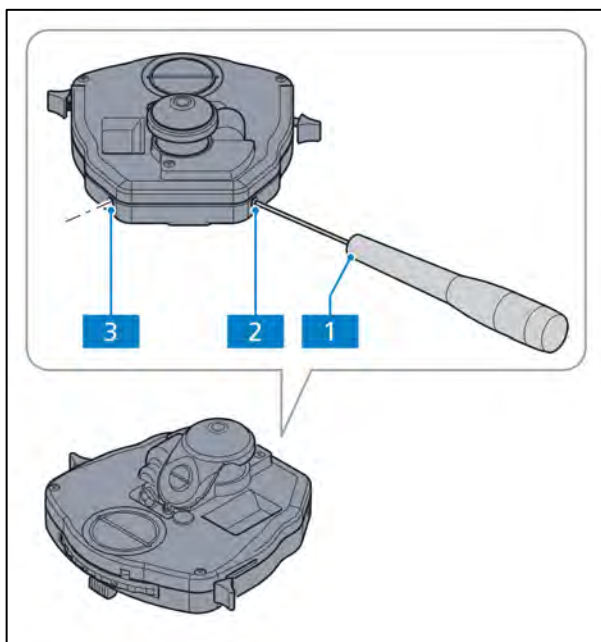
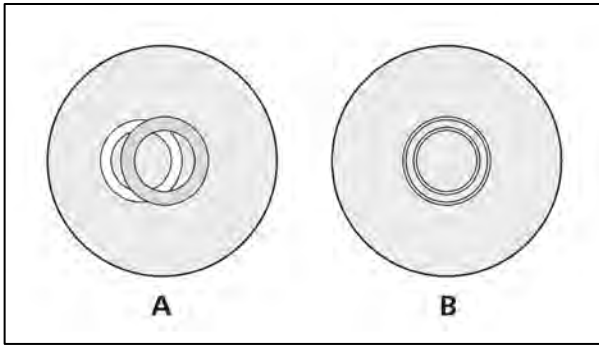

Fig. 4-5 Centering the darkfield stop on condenser, achromatic-aplanatic 0.9 H D Ph DIC
Fig. 4-6 Centering the annular phase diaphragm (light-colored, in the condenser) and the phase ring (dark-colored, in the object)
(3) Configuring transmitted light darkfield microscopy
- To center the darkfield stop (not possible with all condensers), use two Allen wrenches (AF 1.5) (Fig. 4-5/1) to turn the two centering screws (Fig. 4-5/2 and 3) until the exit pupil of the objective appears homogeneously dark. After centering, remove both Allen wrenches (AF 1.5) from the condenser.
- If the overlap is not exact (Fig. 4-6/**A**), the lighter annular diaphragm must be recentered with the aid of two Allen wrenches (AF 1.5) (Fig. 4-5/**1** and **4**). Adjust the two centering screws (Fig. 4-5/**2** and **3**) so that you achieve a full overlap with the darker phase ring (Fig. 4-6/**B**).
A complete phase contrast can only be achieved when the light-colored annular diaphragm (in the condenser) overlaps exactly with the dark-colored phase ring (in the objective) in the illumination beam path (Fig. 4-6/**B**).